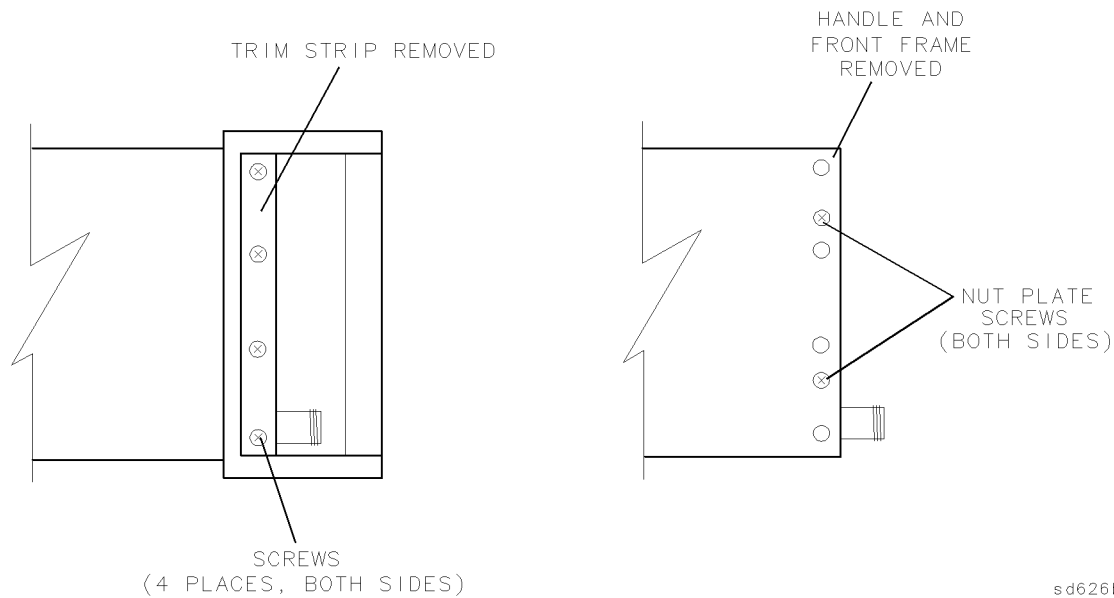

Figure 2-7. Removing the Handles and Front Panel
5. Remove the handles and front panel by following these steps and referring to Figure 2-7.